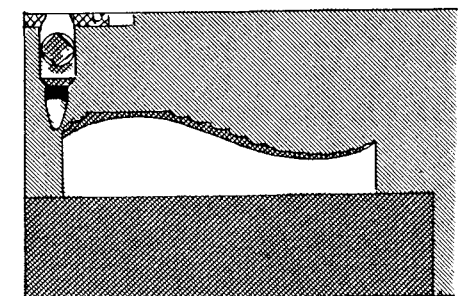

FIG. 512
17. Move the tool down and the work to the right before each stroke, and take a series of roughing cuts, leaving about $1/16$ " of metal parallel with the curved line (Fig. 512).